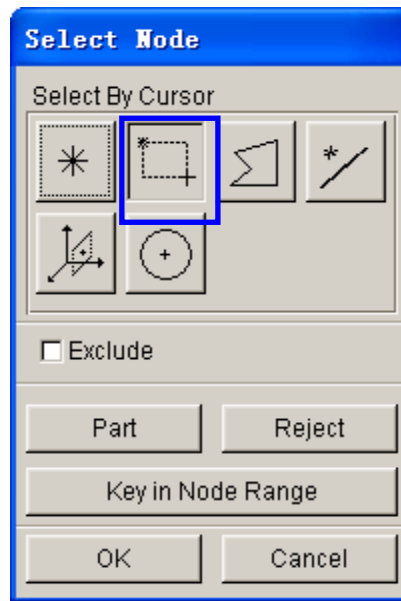

Figure 5.38 Select node dialog box
2. Next, using the **Drag window** option to select the boundary nodes between two blanks, as illustrated in Figure 5.38.